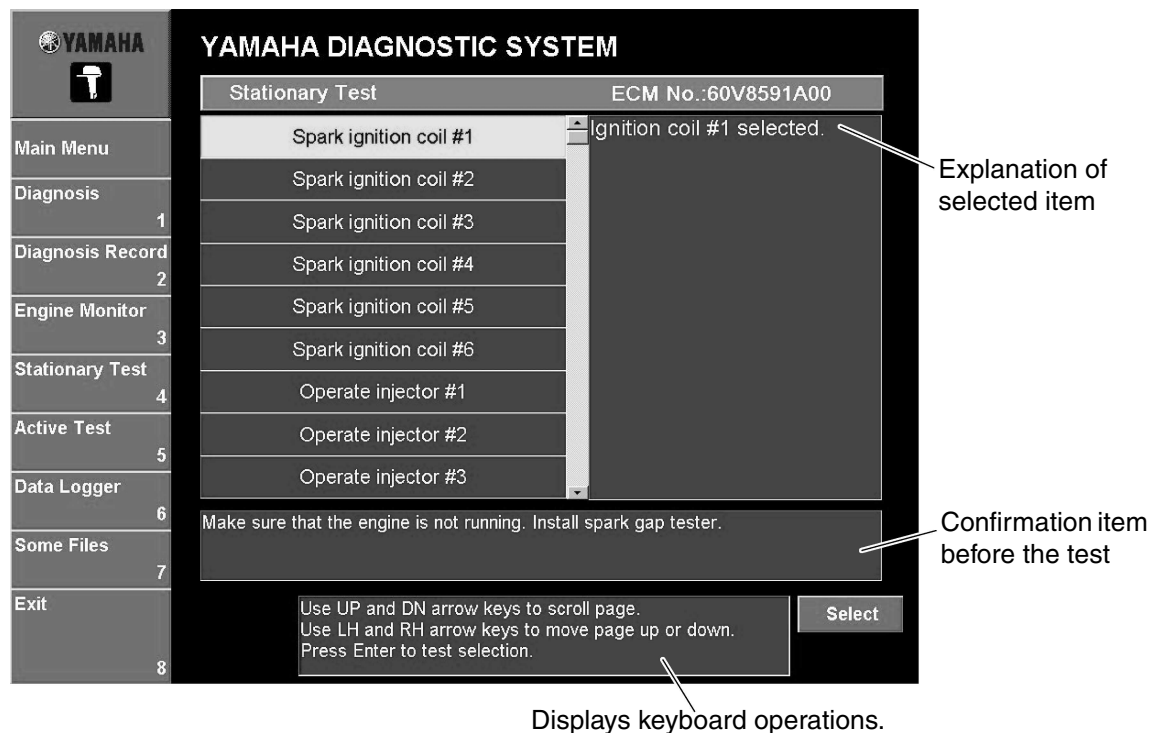

Fig. 39
1. Select the test that you wish to perform by either clicking it or pressing the up or down arrow keys on your keyboard. (Fig. 39)
4. Select the cylinder number where the spark gap tester is connected, and then click the **Select** button or press the Enter key on your keyboard. (Fig. 39)